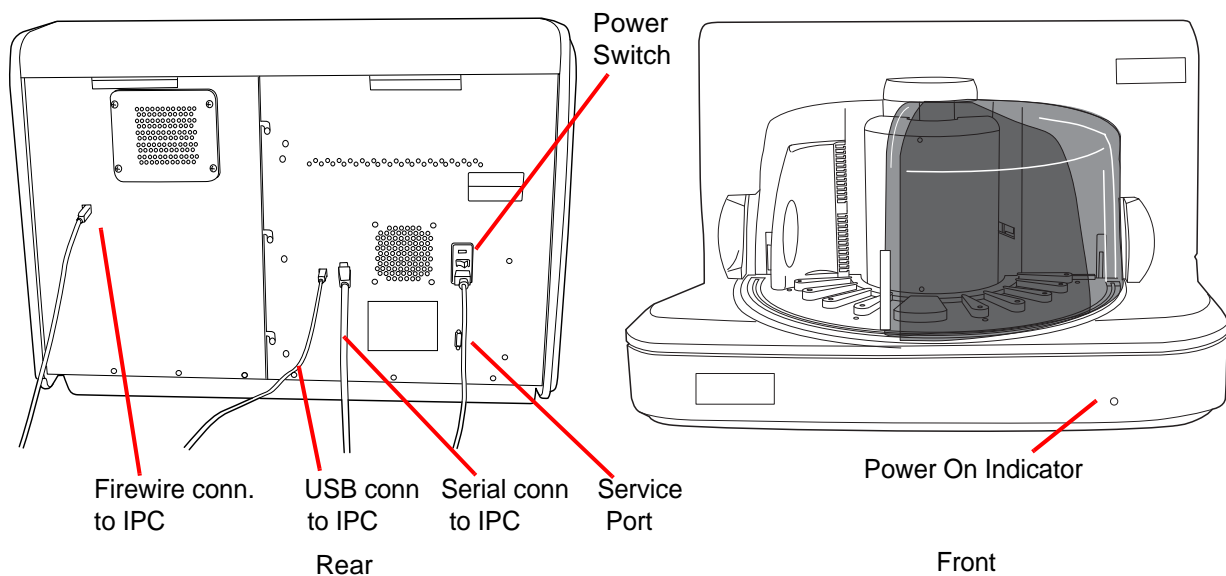

Figure 3-4 Imaging Station, Power Switch
4. At the rear of the Imaging Station (Figure 3-4), position the Power rocker-switch to ON (I).